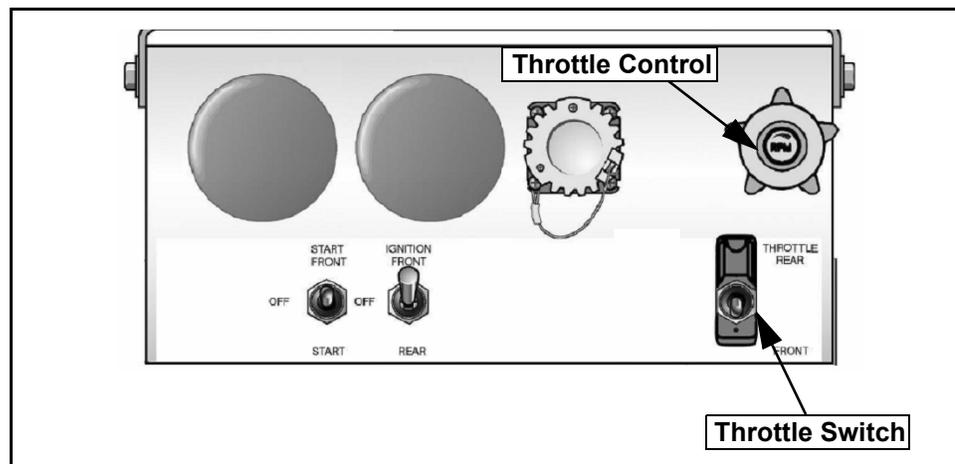

FIGURE 1-1 THROTTLE SWITCH - REPRESENTATIVE IMAGE
1. Examine the rear engine panel for the installation of the Rear Throttle switch. See Figure 1-1.